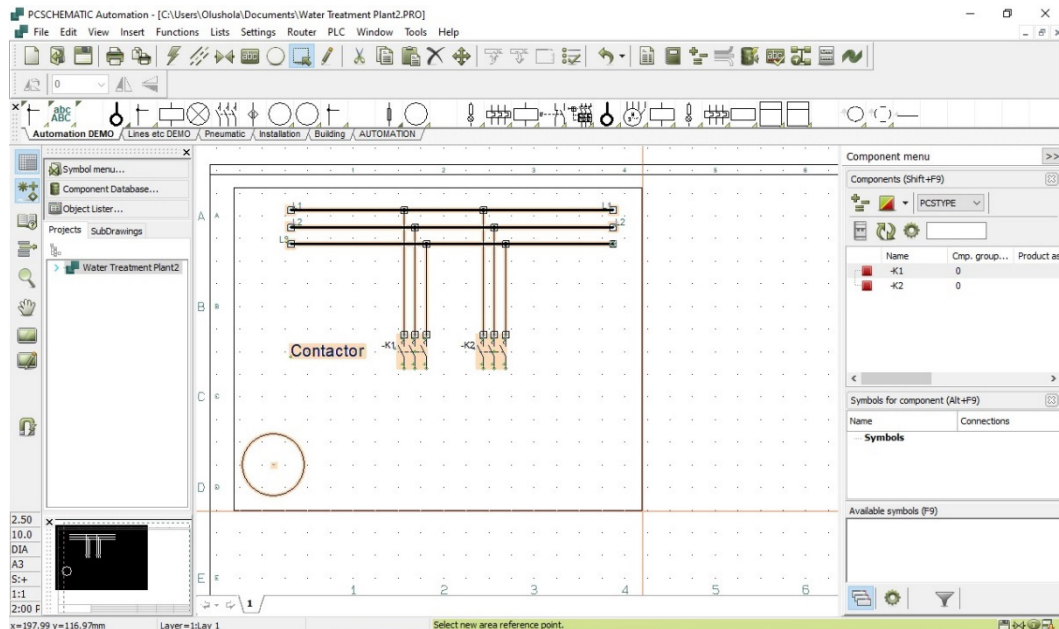

Figure 6.30 – Different objects selected using the area tool
2. Drag a marquee rectangle around the objects to select the objects, as shown in *Figure 6.30*: